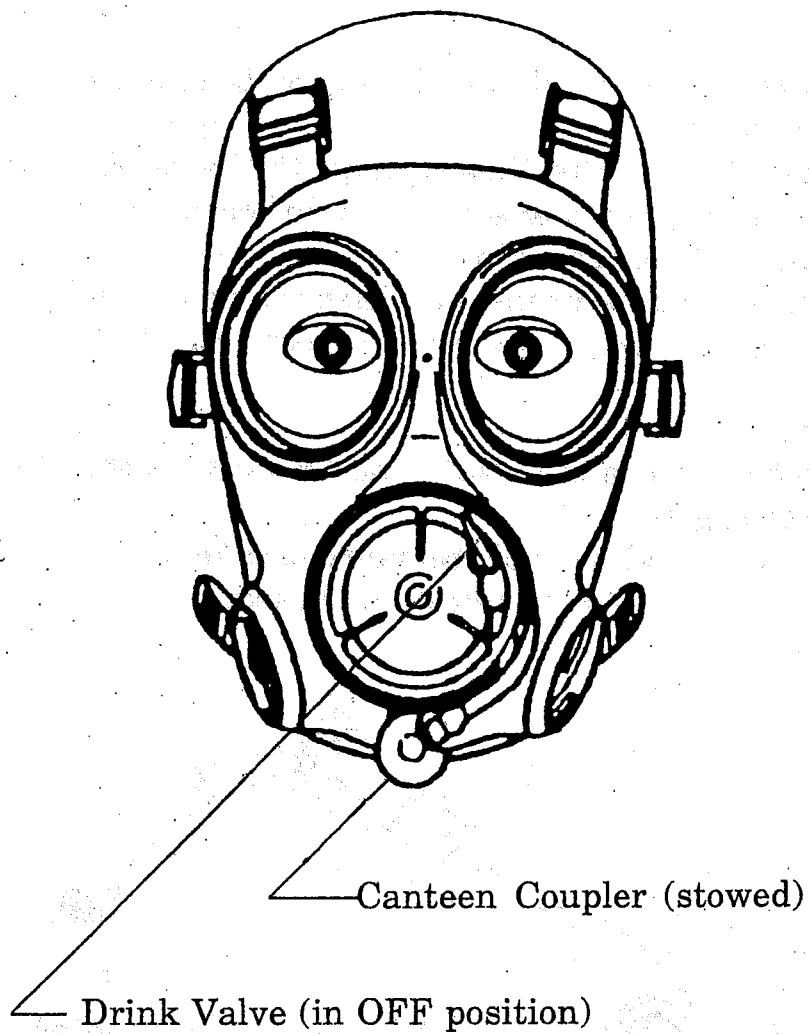

Fig 10
- Unplug the canteen coupler from the storage slot under the primary speech module and unwrap the flexible external drink tube line (ref. Fig. 10).
- Turn the drink valve ON by rotating the internal drink tube to the mouth with the valve located on the left side of the primary speech module (ref. Fig. 10).
- Insure the valve is OFF with internal drink tube stowed aside prior to removal of canteen (ref. Fig. 10).